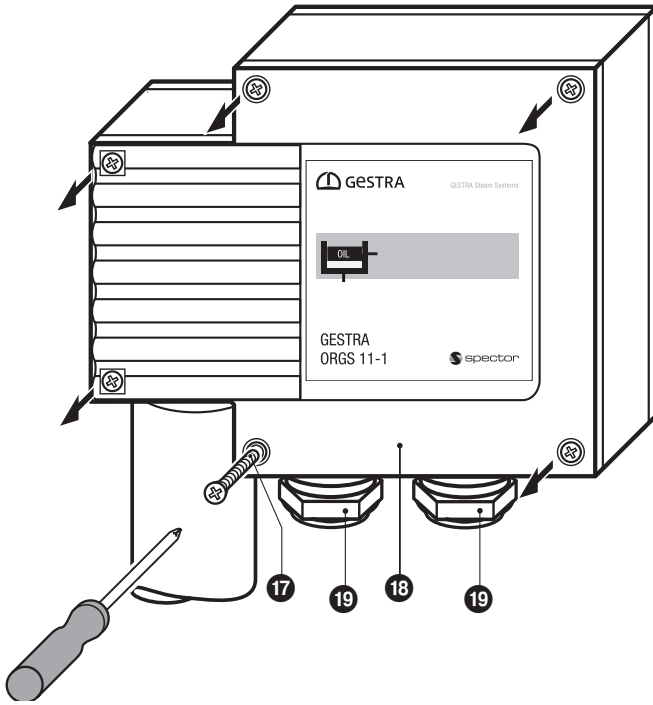

Fig. 6
1. Unscrew cover screws 17 and remove cover 18. Fig. 6
1. Undo the cover screws 17 and take off the housing cover 18. **Fig. 6**
1. Unscrew cover screws **17** and remove cover **18**. **Fig. 6**
1. Unscrew cover screws ⑰ and remove cover ⑱. **Fig. 6**
2. Pull electrode wires from terminal lugs on circuit board. Remove the terminal strip ⑳.